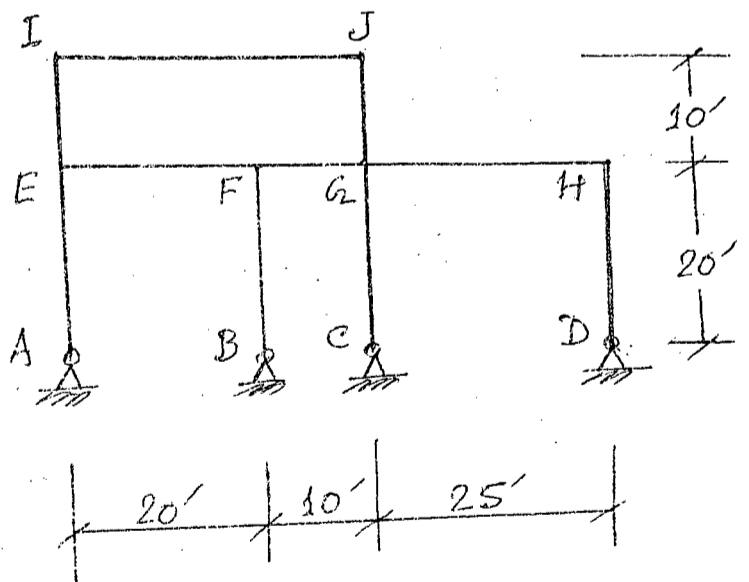

Fig. 11
14. An uniform vertical dead load of 5 kip/ft and live load of 3 kip/ft act on all the beams of the frame shown in Fig. 11. Draw bending moment diagrams for all the beams and columns of the frame by approximate analysis. Also draw axial force diagrams for the columns. Given: EI is constant and same for all the columns. Draw bending moment diagrams on compression side. (28)